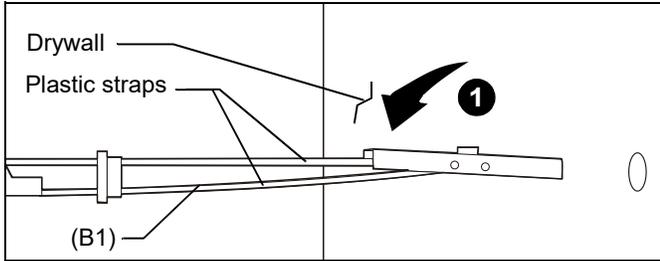

Figure 62
1. Hold metal channel on anchor (B1) flat alongside plastic straps and slide channel through hole. (See Figure 62)